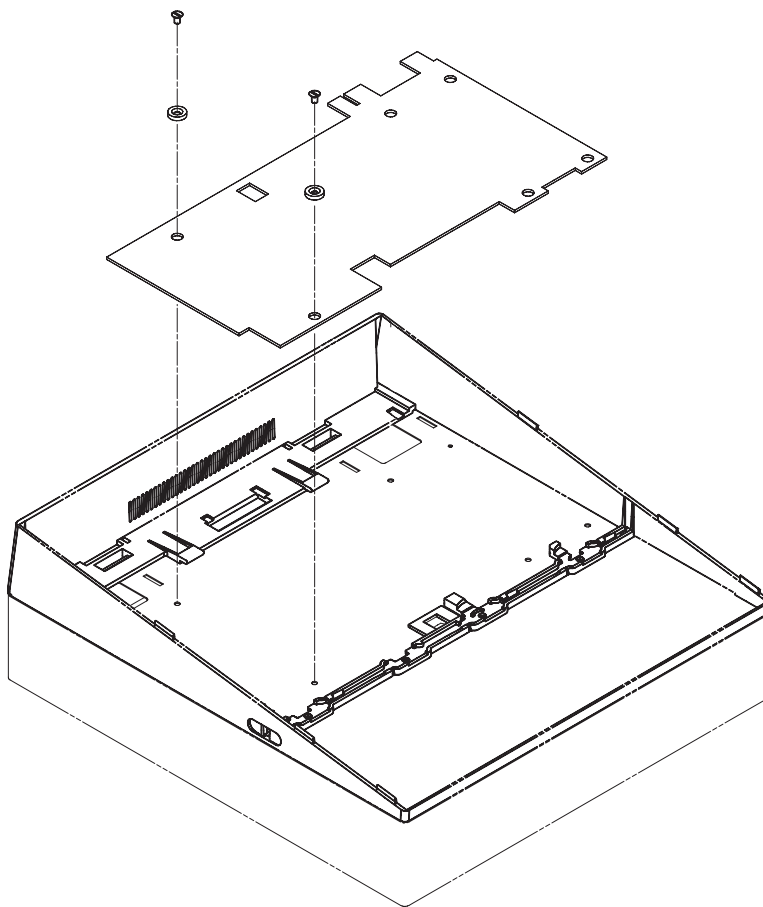

Figure 35. Inserting the stiffening plate
2. Place the stiffening plate onto the 4694, aligning the holes in the plate with the holes in the unit (As shown in Figure 35).
**Note:** Figure 35 illustrates the right-oriented placement of the arm. Rotate the plate over for a left-oriented placement.